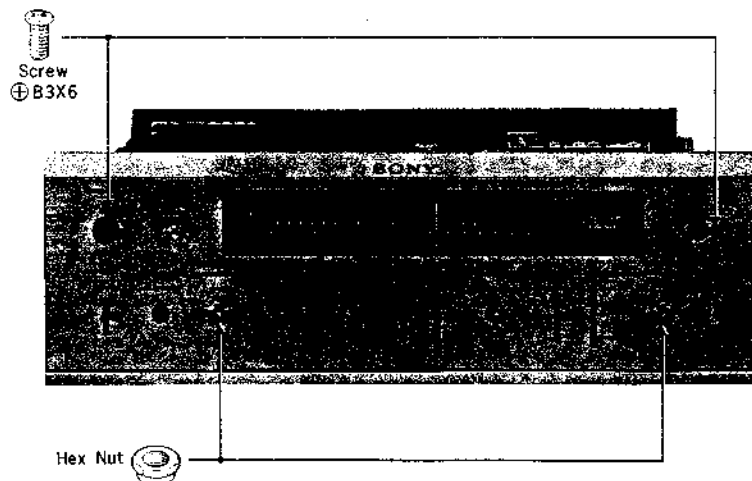

Fig. 2-2 Removal of Front Panel
- (c) Loosen off two screws (+B3×6) one at the right side of the tuning shaft and the other just above the volume control shaft. See Fig. 2-2.